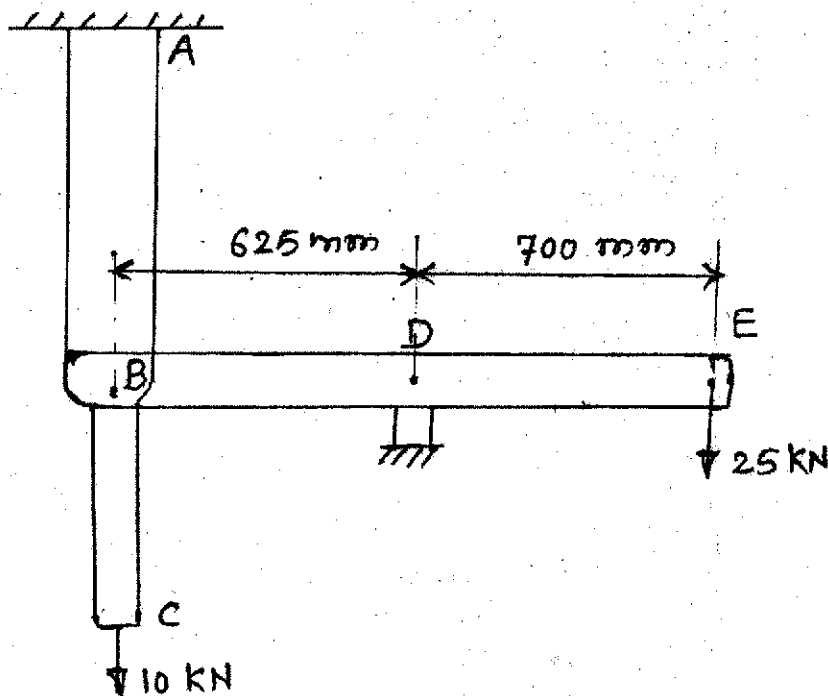

Fig. 2
2. (a) A vertical steel bar ABC is pin supported at its upper end as shown in Fig. 2 and loaded by 10 kN force at its lower end. A horizontal beam BDE is pinned to vertical bar at point 'B' and supported at point 'D'. Beam carries load of 25 kN at end 'E'. 'AB' is having length 500 mm and c/s area 160 mm^2 . BC has length 750 mm and c/s area 100 mm^2 . Modulus of elasticity E is 200 GPa. Calculate vertical displacement of point 'C' neglecting weight of bar and beam. [6]